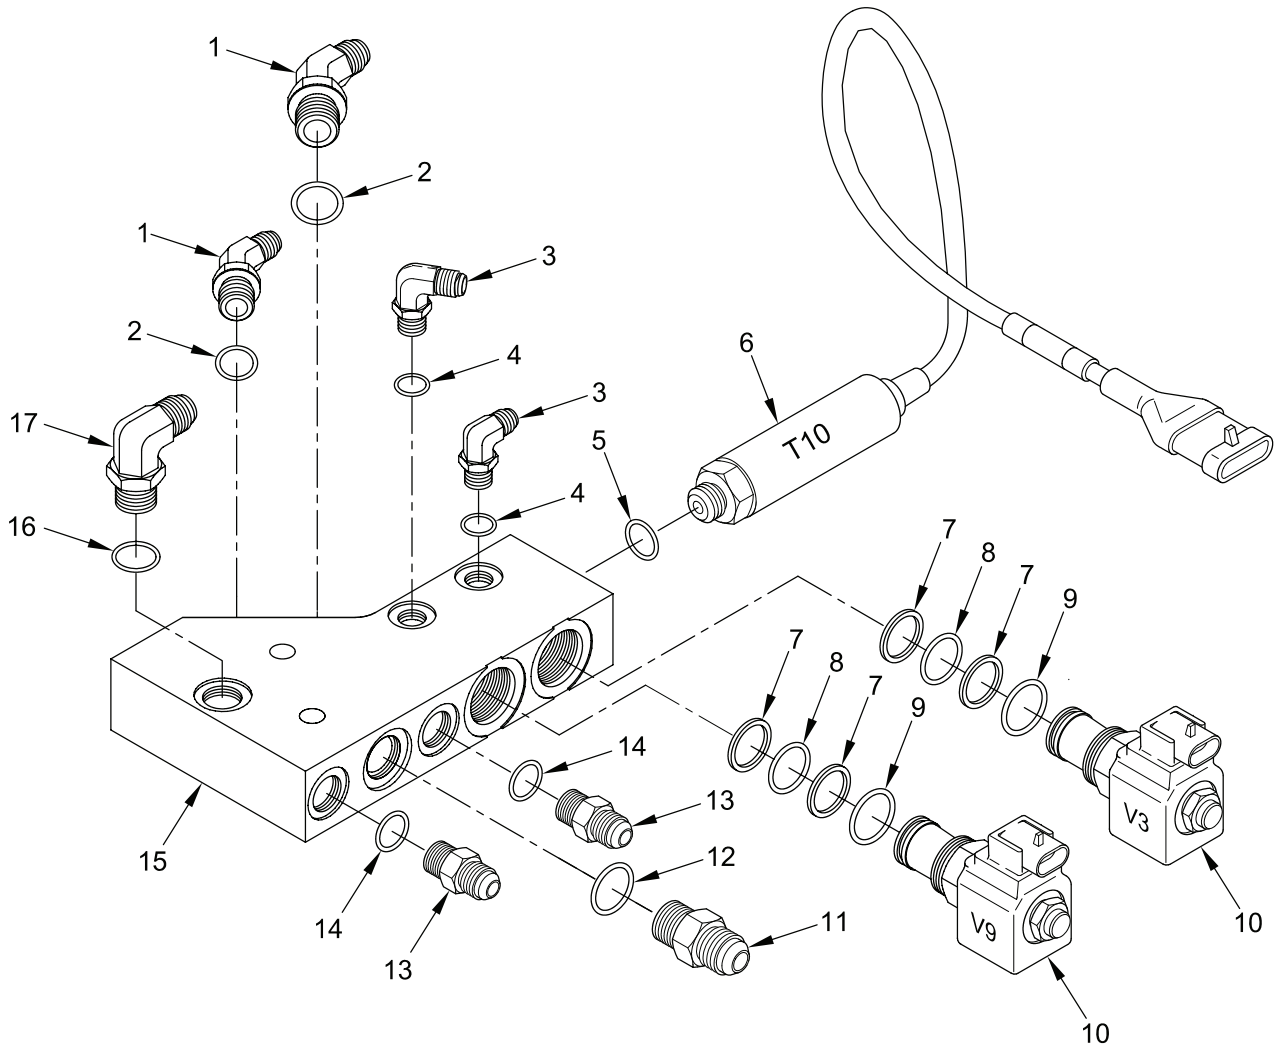

Figure 2. Disassembly of HDC Forward Left Manifold
1. Remove two adapters (Figure 2, item 3), two o-rings (Figure 2, item 4), two adapters (Figure 2, item 13), two o-rings (Figure 2, item 14), adapter (Figure 2, item 11), o-ring (Figure 2, item 12), adapter (Figure 2, item 17), o-ring (Figure 2, item 16), two adapters (Figure 2, item 1), and two o-rings (Figure 2, item 2) from left forward manifold (Figure 2, item 15). Discard o-rings.
2. Remove two two-way (NO) valves V3 and V9 (Figure 2, item 10), two teflon backups (Figure 2, item 7), two o-rings (Figure 2, item 8), two teflon backups (Figure 2, item 7), two o-rings (Figure 2, item 9), transducer T10 (Figure 2, item 6), and o-ring (Figure 2, item 5) from left forward manifold (Figure 2, item 15). Discard o-rings and teflon backups.